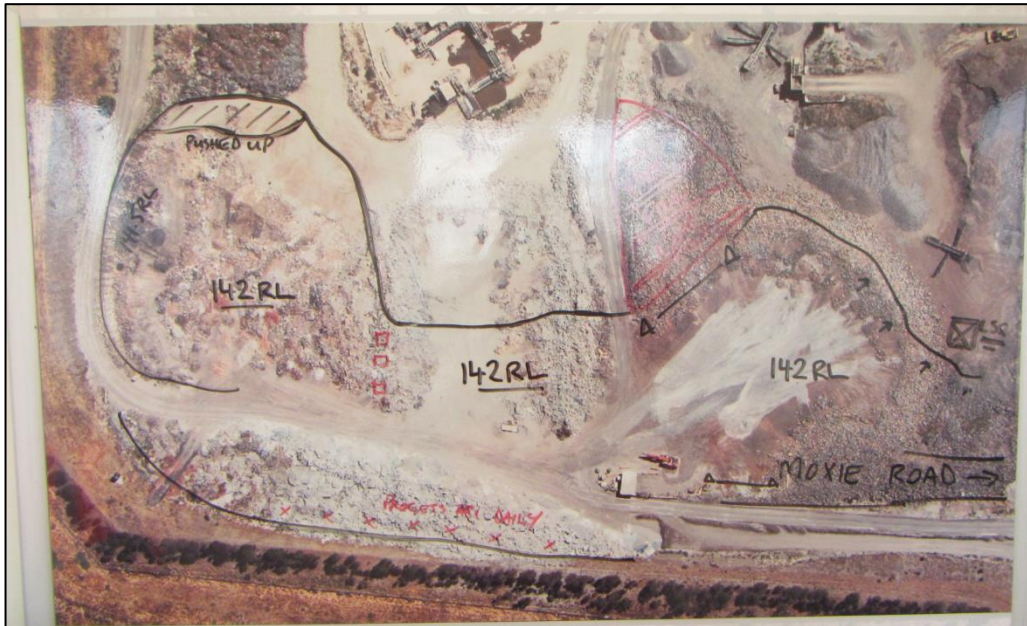

Figure 8 - Example of Tip Head Plan with Notes
- Area to be identified and marked on the Site Map, indicating minimum area for tipping. Refer to Figure 8 - Example of Site Map with Notes
- The RL's that are to be maintained on each pad (i.e. Rock, Concrete, Class 4, RAP), refer to *Figure 8 Example of Tip Head Plan with Notes*.